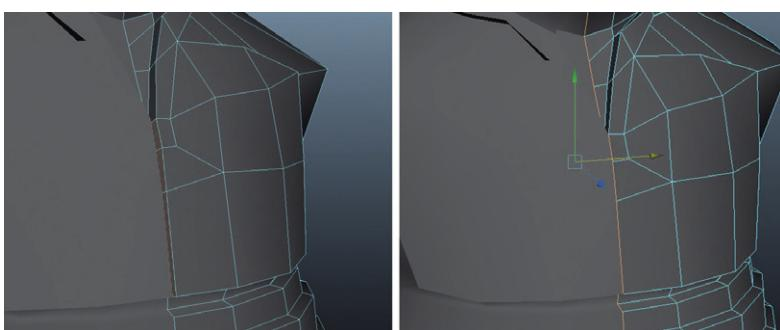

FIG 4.58 Cleaning up unwanted geometry from the extrusion steps.
Step 76: Clean the seam. With this extrusion comes new polygons around the edge of the extrusion. This includes some right along the middle of the chest – which we don't want. Select those (Fig. 4.58, left) and delete them. Then, snap the vertices across the middle of the chest back to the center (Fig. 4.58, right).